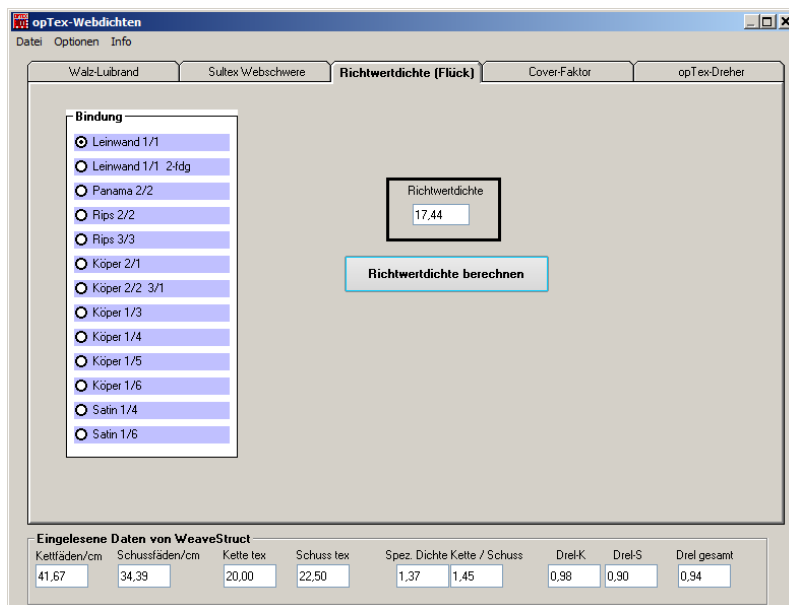

Abb. 3: Calculation, the benchmark density after Flück
3. Benchmark density after Flück (Fig. 3):